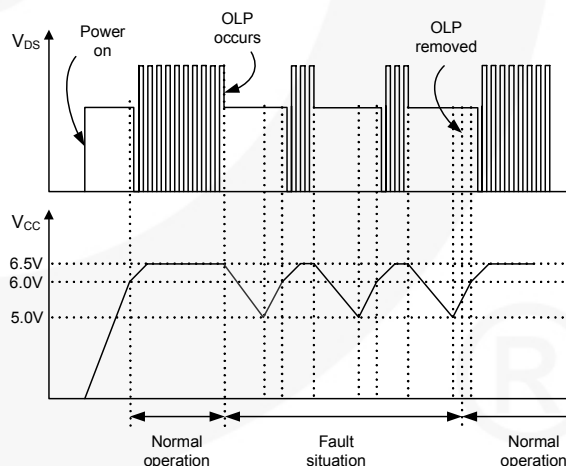

Figure 17. Auto Restart Protection Waveforms
3. Protection Circuits: The FSQ500N has two self-protective functions: overload protection (OLP) and thermal shutdown (TSD). While OLP is implemented as auto-restart mode, there is no switching when TSD triggers. Once the overload condition is detected; switching is terminated, the senseFET remains off, and HV/REG turns off. This causes V_{CC} to fall. When V_{CC} falls below the under-voltage lockout (UVLO) stop voltage of 5.0V, the protection is reset and the startup circuit charges the V_{CC} capacitor. When V_{CC} reaches the start voltage of 6.0V, the FSQ500N resumes its normal operation. If the fault condition is still not removed, the senseFET and HV/REG remain off and V_{CC} drops to V_{STOP} again. In this manner, the auto-restart can alternately enable and disable the switching of the power senseFET until the fault condition is eliminated, as shown in Figure 17.